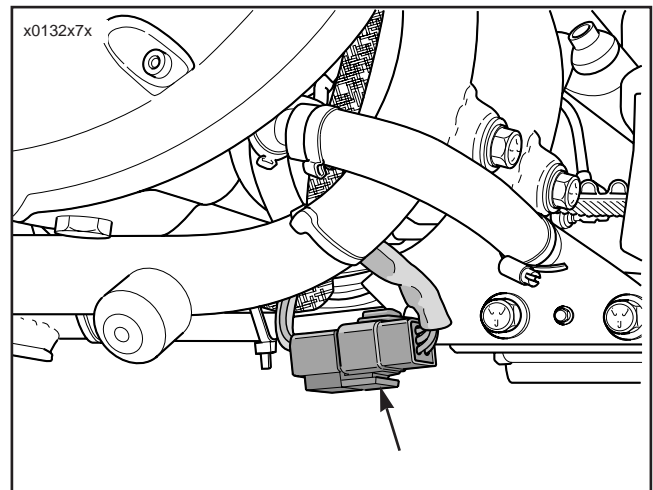

Figure 1. Ignition Module Connector
4. See Figure 1. Remove ignition module connector (6-pin Deutsch connector) from T-stud on frame and disconnect.